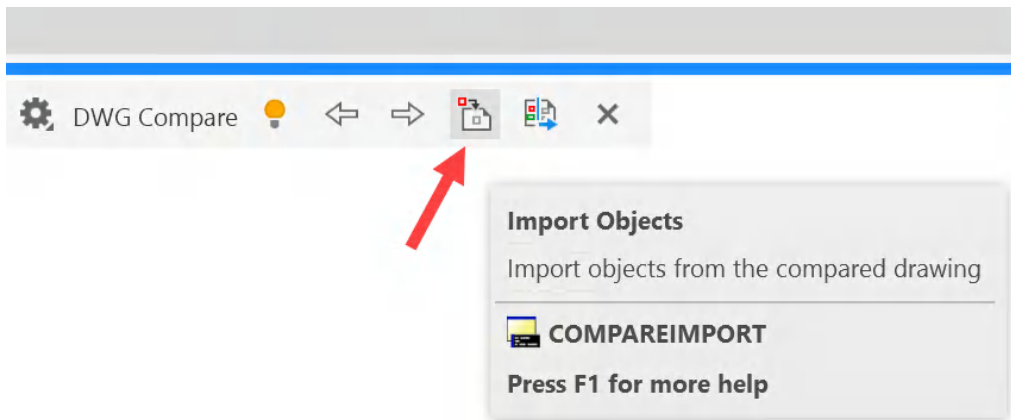

Figure 14.9: The Import Objects icon on the DWG Compare toolbar
1. While staying in DWG Compare mode, you can select the **Import Objects** icon on the **DWG Compare** toolbar, as shown in *Figure 14.9*.